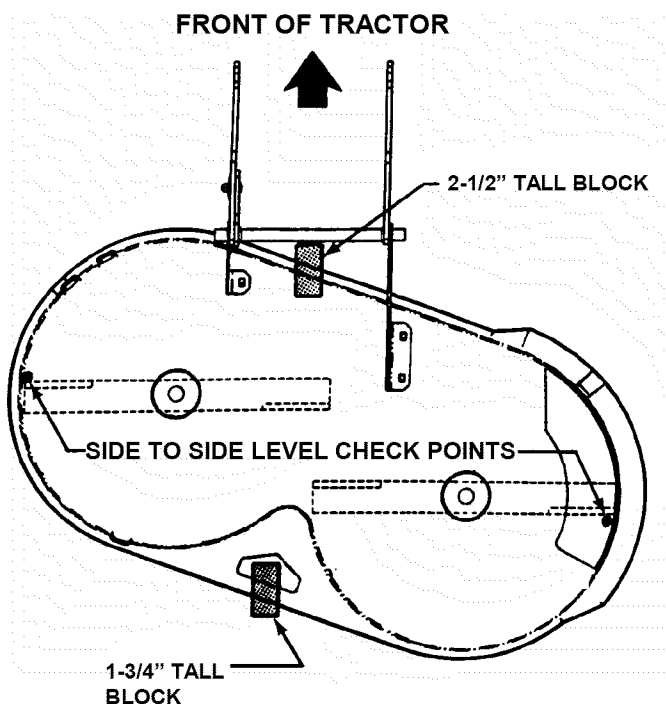

FIGURE 4.13
3. Place a 2-1/2" tall block under the front of the deck centered between the front lift arms. See Figure 4.13.
4. Place a 1-3/4" tall block under the rear of the deck in the center. See Figure 4.13.
5. Position blades as shown and lower deck onto blocks. See Figure 4.13.